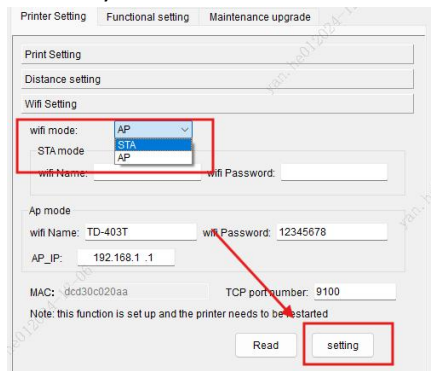

Fig.27
② **AP mode switches to STA mode:** In the WiFi module, select "STA" and click **[setting]** (shown in Fig.27). For specific setup methods, refer to the STA setup method below (see Fig.28 and 29).